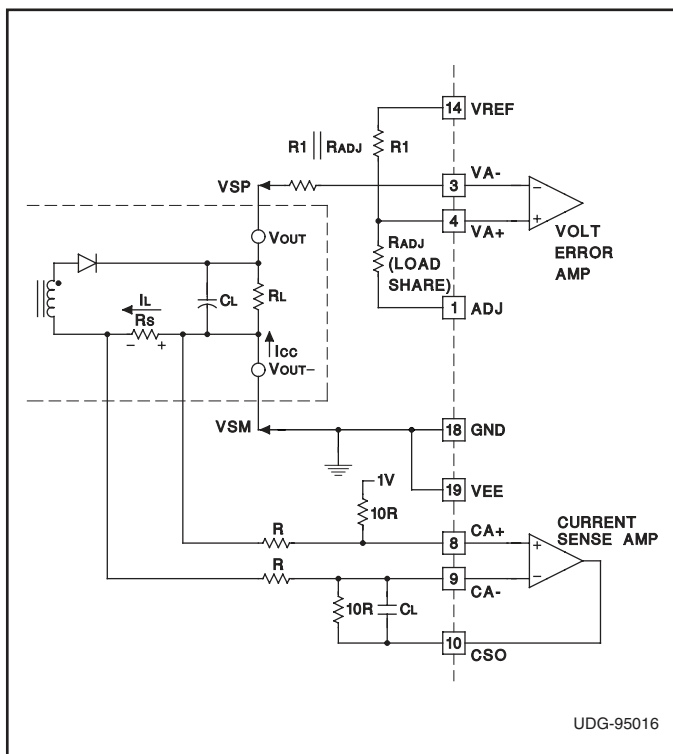

Figure 4. Voltage and Current Sense VEE Tied to GND
**Grounds, Voltage Sensing and Current Sensing:** The voltage is sensed directly at the load. Proper load sharing requires the same sensed voltage for each power supply connected in parallel. Referring to Figure 4, the
Figure 4 shows one recommended voltage and current sensing scheme when VEE is connected to GND. The signal ground is the negative sense point for the output voltage and the positive sense point for the output current. VEE is the negative supply for the current sense amplifier. When it is separated from GND, it extends the current sense amplifier's common mode input voltage range to include VEE which is approximately  $-0.7V$  below ground. The resistor  $R_{ADJ}$  is used for load sharing. The unit which is the master will force  $V_{ADJ}$  to  $1.0V$ . Therefore, the regulated voltage being sensed is actually